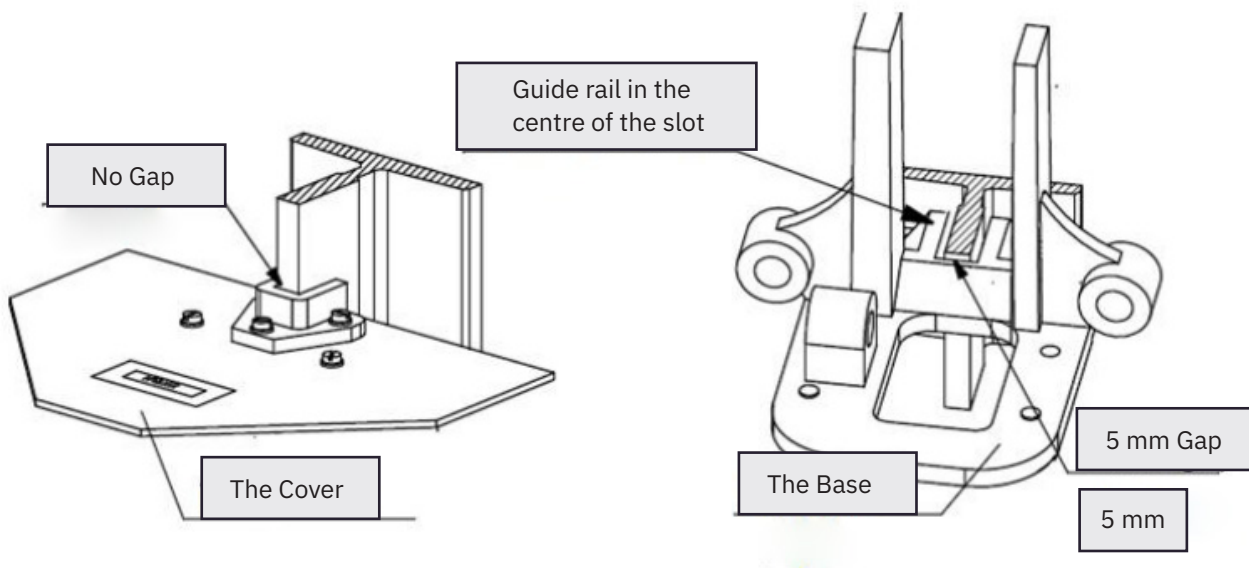

Fig. 2. Checking of the position of the slider and the guide rail
- Align the roller guides in relation to the guide rails so that the requirements shown in figure 2. and 3. are achieved.
- Make also sure that the roller guides position and alignment is correct (Fig. 2).